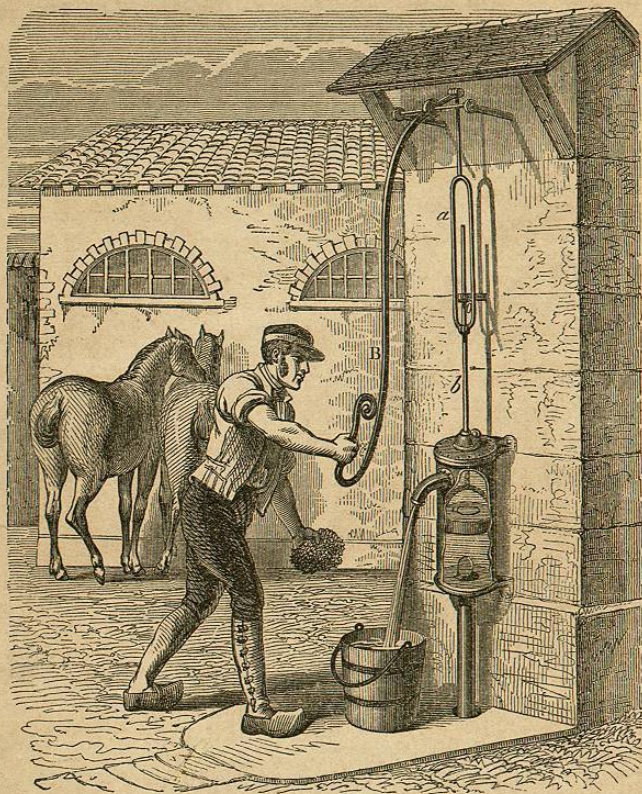

Fig. 95.
**135.** A SUCKING AND LIFTING PUMP is represented in Fig. 95, in which a portion of the barrel is removed, to show more clearly the relative position of the parts.